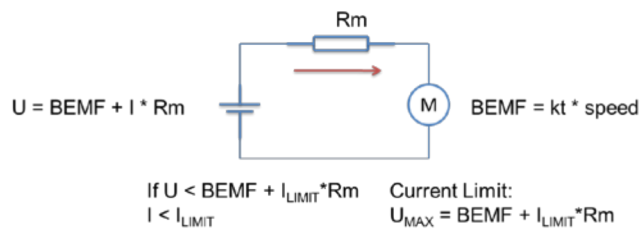

Figure 13. Current Limit
The current limit function provides active protection for preventing damage as a result of high current. The soft current limit does not use direct current measurement for protection, but rather, uses the measured motor resistance (R_m) and motor velocity constant (K_t) to limit the voltage applied to the phase (U) such that the current does not exceed the limit value (I_{LIMIT}). This is illustrated in Figure 13 based on the calculation shown in Equation 5.